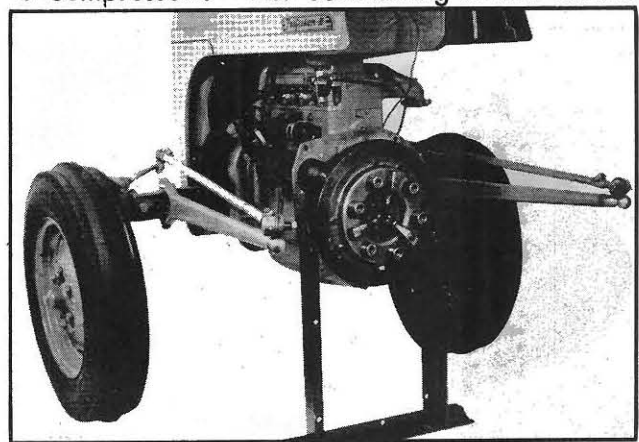

Fig. 118
11. Remove bolts holding transmission housing to engine, move transmission and engine apart. Support rear of engine on a stand, see Fig. 118.